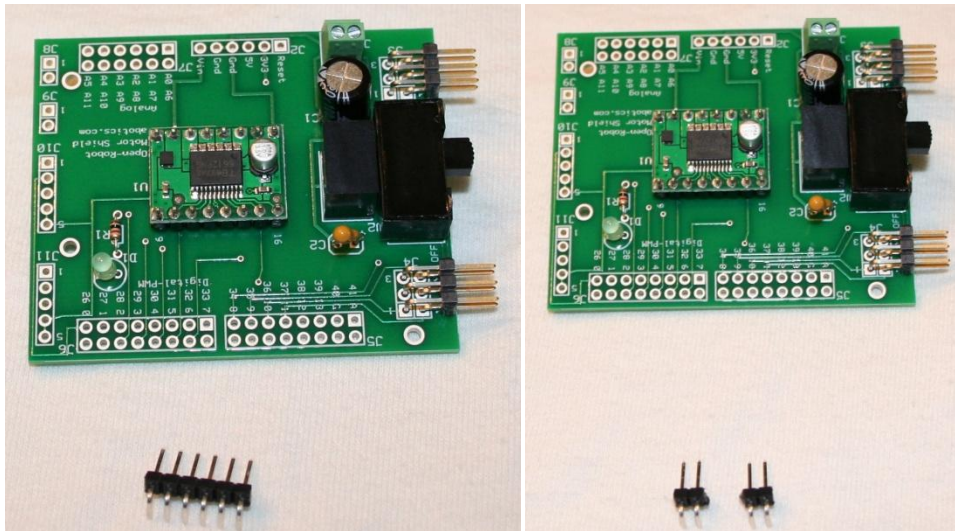

FIG 12. Prepare 2x1 Right Angle Connectors, J8 & J9.
Refer to figure 12 below for how to prepare 2x1 Right Angle Connectors, J8 & J9. You must break off (2) 2x1 headers from the provided 6x1 right angle header.